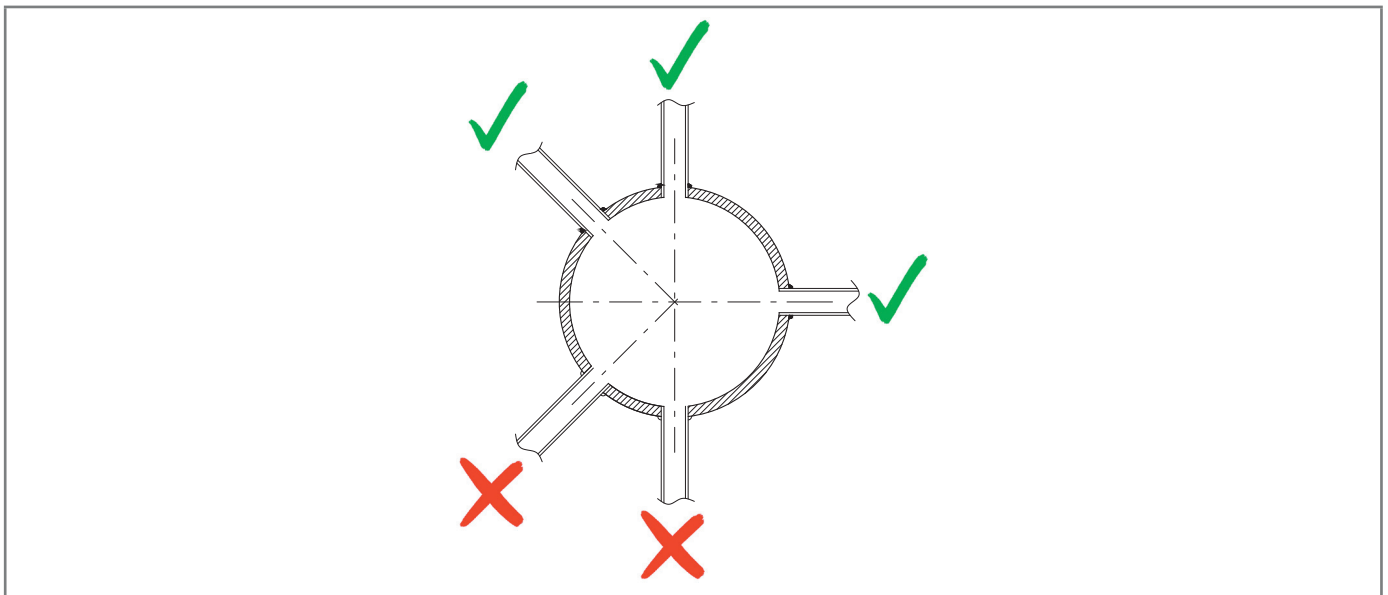

Fig. 6.19. *Welded pipe connections*
- the connections of the pneumatic connection are always welded to the top or horizontal axis of the pipe itself (refer to Fig. 6.19);